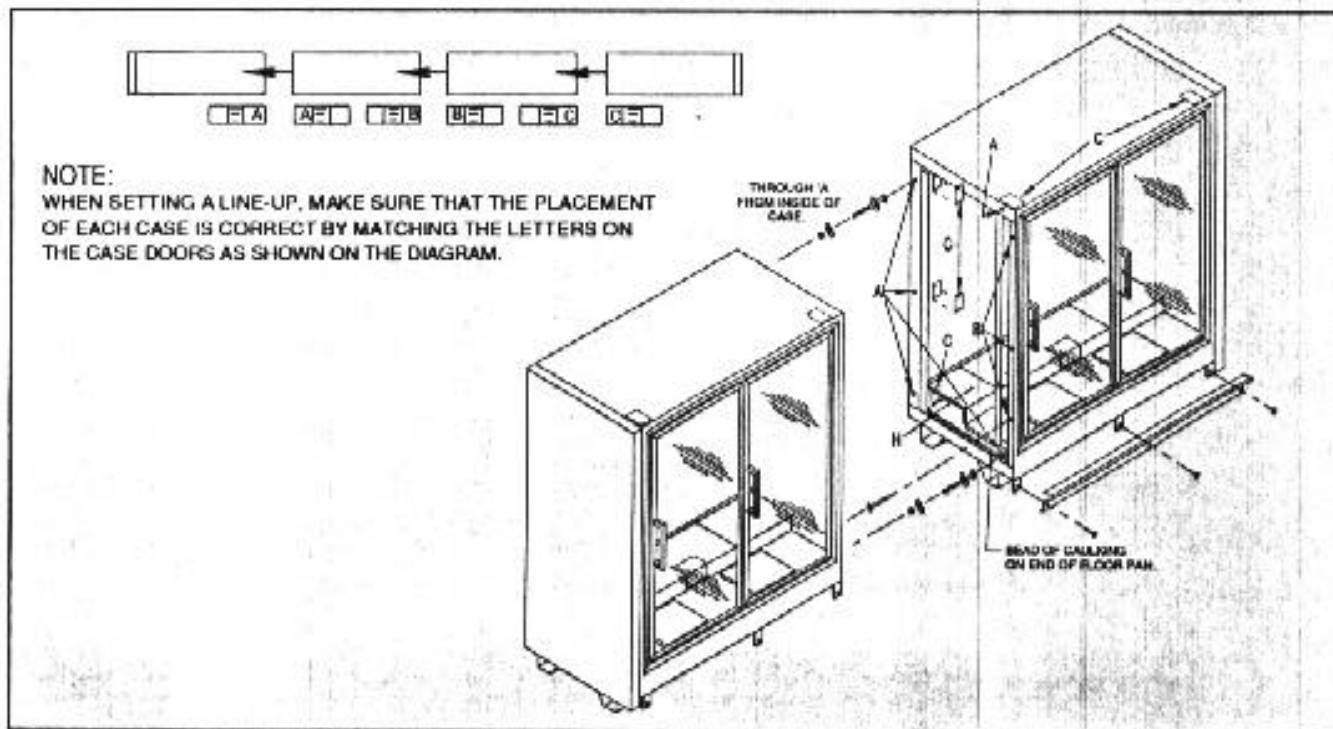

Figure 1. Joining Reach-In Freezers
To install Reach-Ins, perform the following steps. (See Figure 1.)
2. Push the second Reach-In against the end of the first. Level the second Reach-In. Remove the left and right end coil covers (H) and the rectangular pocket hole covers (C), accessing the holes marked "A" in each freezer. (See Figure 1.) Carefully remove the insulation from the pocket holes and save it.